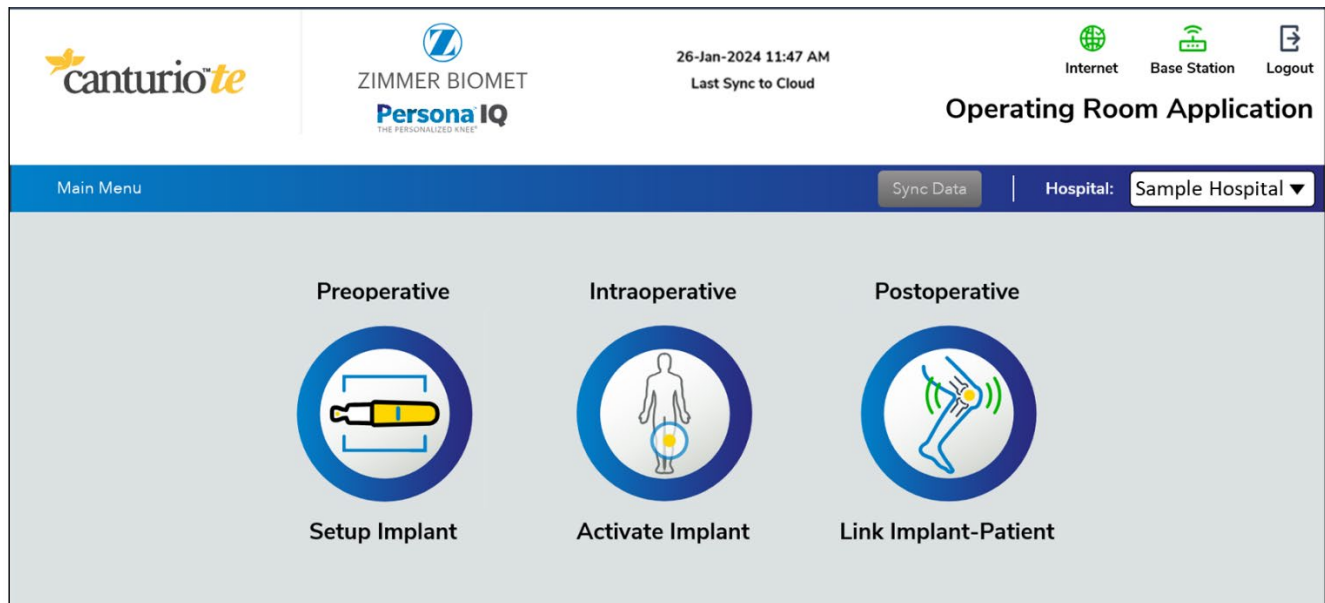

Figure 39: Main Menu
7. Enter your authorized Username and Password and click the “Login” button. This will take you to the Main Menu screen. (**Figure 39**)
8. Under “Postoperative,” click on the “Link Implant – Patient” icon (**Figure 39**).